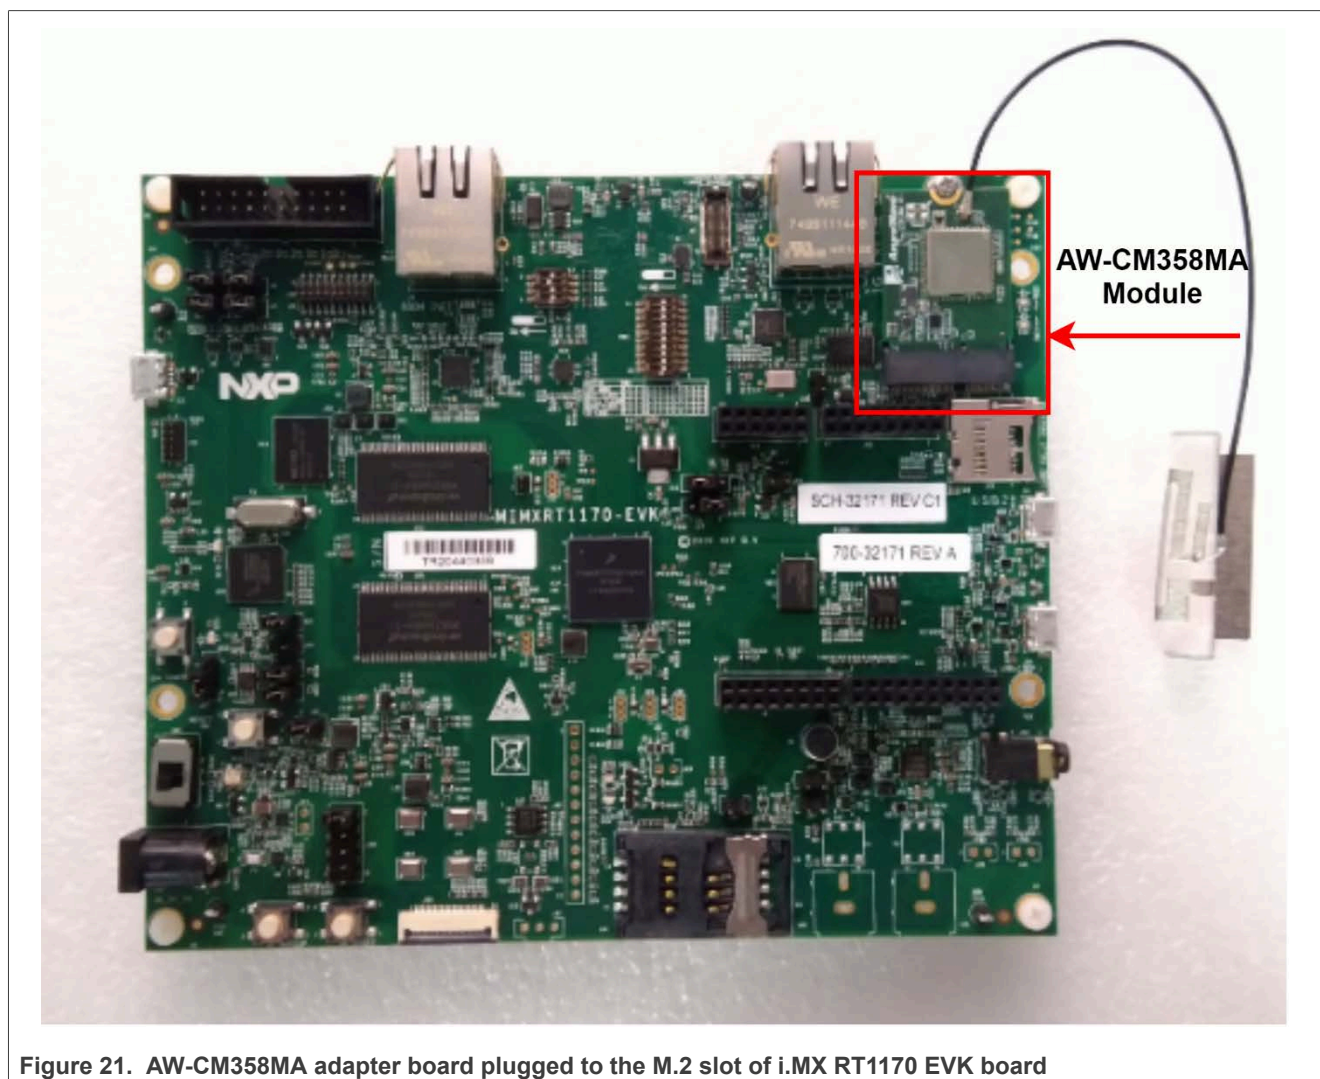

Figure 21. AW-CM358MA adapter board plugged to the M.2 slot of i.MX RT1170 EVK board
- Plug AW-CM358MA adapter board into the M.2 slot of i.MX RT1170 EVK board screw (Figure 21).